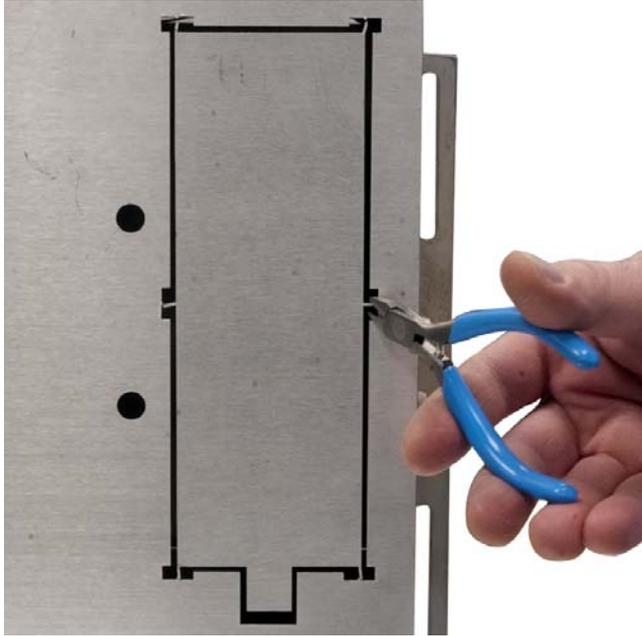

Figure 37 Removing the accessory plate using diagonal cutters
- 13** On the underside of the sample tray, remove the accessory plate using a diagonal cutter (**Figure 37**).